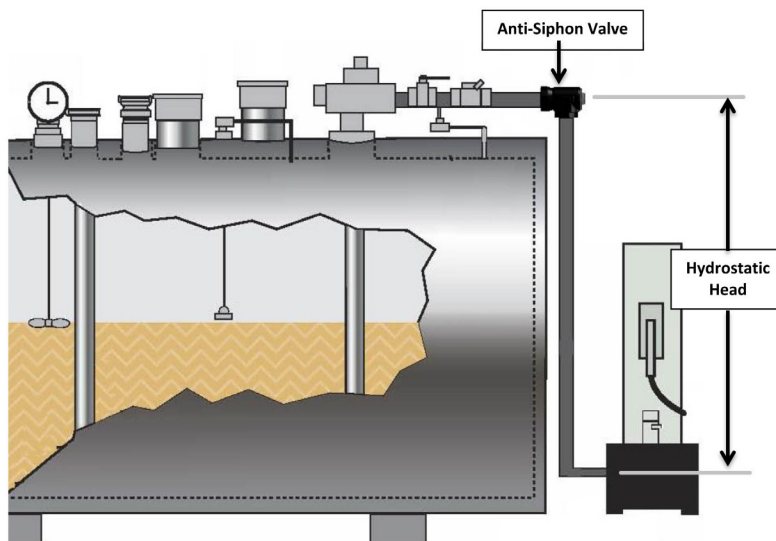

Figure 1: Installed Anti-Siphon Valve
3. Insure the valve has the proper size and setting for your specific application, See Figure 1. **Head heights are given in feet of water column (W.C.) and must be selected to account for the specific gravity of the fluid in the system.**